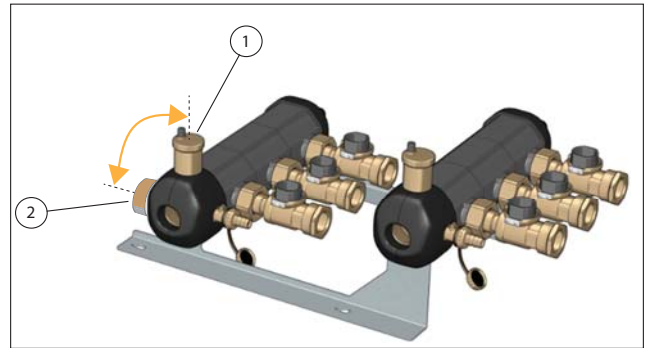

Figure 51
See Figure 51. In addition, the Caleffi manifold system can be mounted horizontally within the vault. If this configuration is used, the manifold air vent (1) must be moved from its factory installed position to the position currently used by the temperature gauge (2). The temperature gauge will be installed in the original position used by the air vent. If this is the configuration that will be used, the following procedure is required for the correct component installation.